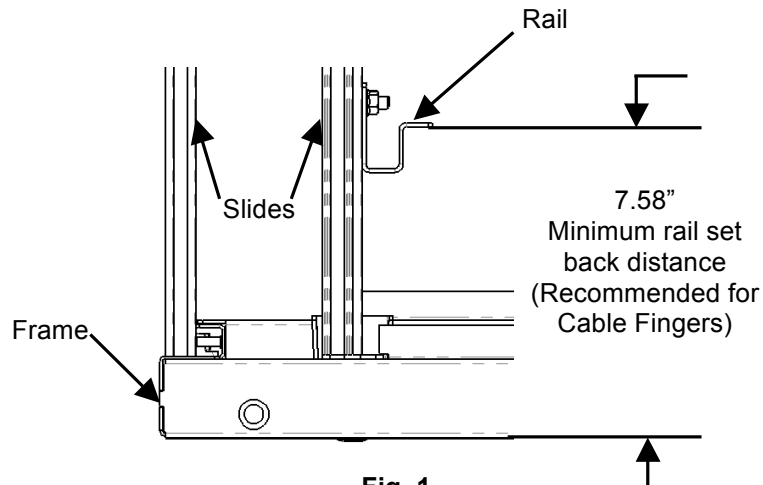

Fig. 1
The equipment mounting rail must be setback a minimum distance when used with Cable Fingers (Fig.1).
3. Slide the Equipment Rail to desired position (Fig. 1) and torque nuts to 372 In-Lbs. (42 NM).